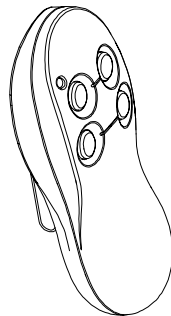

Figure 2-1. The MCT-104
- **Wireless devices** (see Figures 2-1, 2-2): These are miniature wireless transmitters and detectors which perform functions identical with those performed by their wire-connected counterparts. You can control the AUTOCOM-200 from anywhere within your residence, by carrying single or multi-function pushbutton type transmitters. Each pushbutton is dedicated to a special task. You can therefore:
Figure 2-1 shows the AUTOCOM-200 console with the sloping front panel, where the 5 pushbuttons and 2 indicators are located. The top part is designed as a recessed platform, on which your